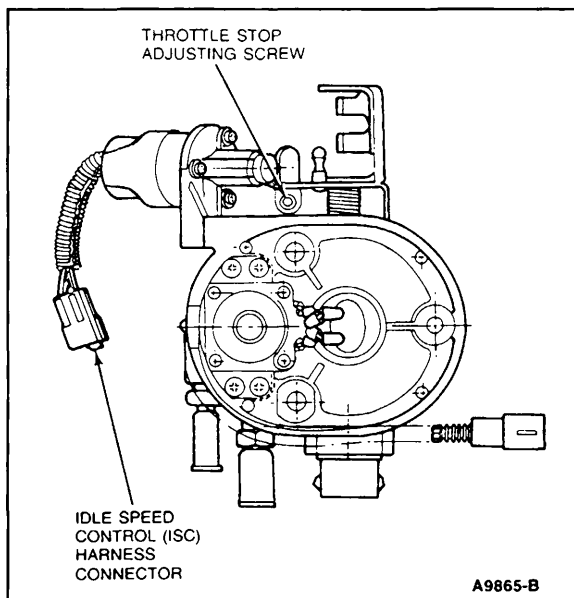

Figure 2 1.9L CFI
9. Adjust throttle stop adjusting screw (Figure 2 or 3). Refer to Step 4 for idle rpm.